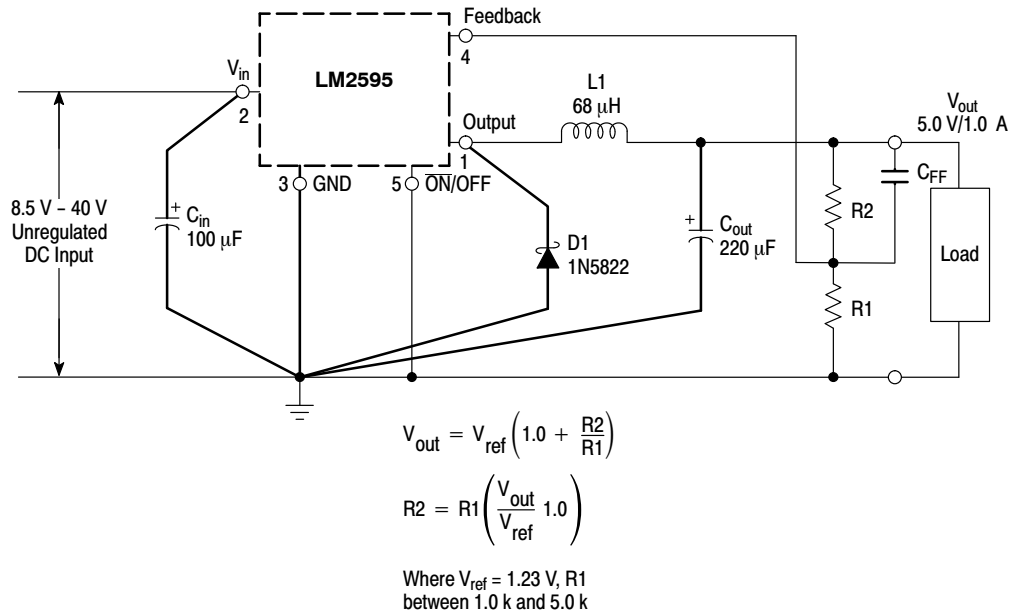

Figure 16. Typical Test Circuit
| LM2595 (Note 1, Test Circuit Figure 16) | | | | | |
- External components such as the catch diode, inductor, input and output capacitors can affect switching regulator system performance. When the LM2595 is used as shown in the Figure 16 test circuit, system performance will be as shown in system parameters section.
TYPICAL PERFORMANCE CHARACTERISTICS (Circuit of Figure 16)
As in any switching regulator, the layout of the printed circuit board is very important. Rapidly switching currents associated with wiring inductance, stray capacitance and parasitic inductance of the printed circuit board traces can generate voltage transients which can generate electromagnetic interferences (EMI) and affect the desired operation. As indicated in the Figure 16, to minimize inductance and ground loops, the length of the leads indicated by heavy lines should be kept as short as possible.